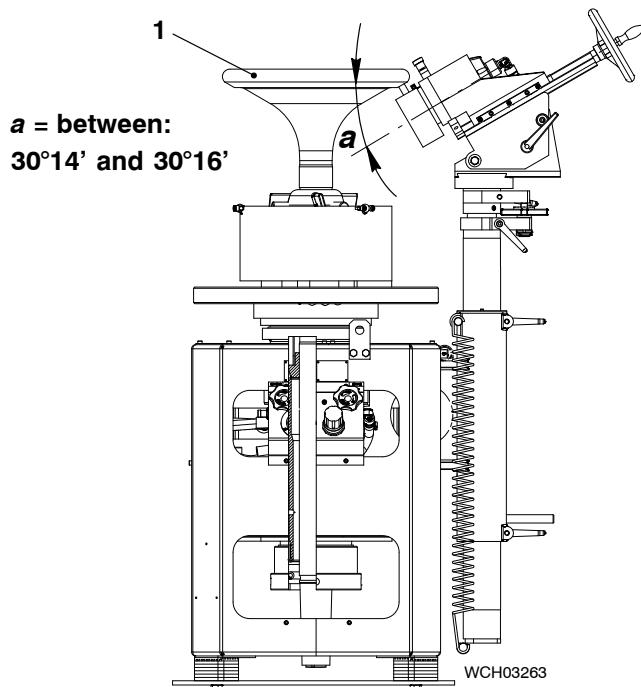

Fig. 1
Use only the grinding device 94291 (see Fig. 1) to grind the valve head.
- 3) Put the valve spindle in position in the grinding device 94291, see Fig. 1.